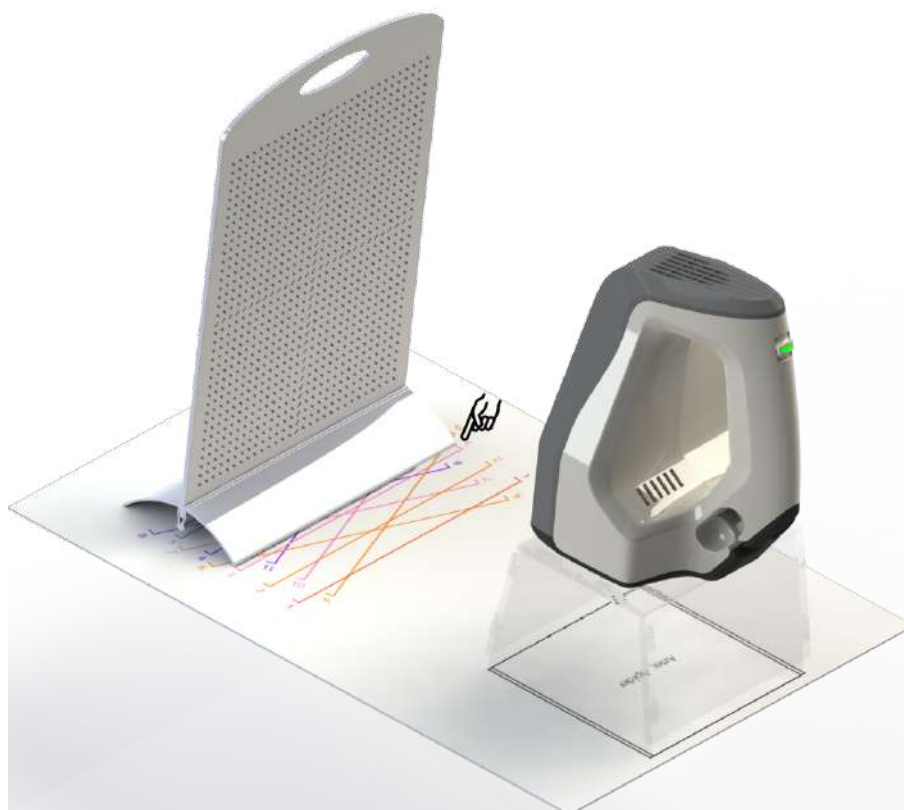

Figure 163: Calibration rig, pattern and scanner stand with Artec Spider.
4. Set the calibration rig on the pattern, turning its marker side toward the scanner as Figure 163 shows.